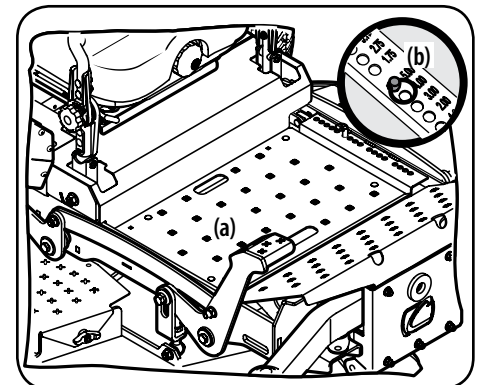

Figure 3-10
3. Use the deck lift pedal (a) to raise the deck to its highest position and secure in place with the clevis pin (b) attached to the tractor. See Figure 3-10.